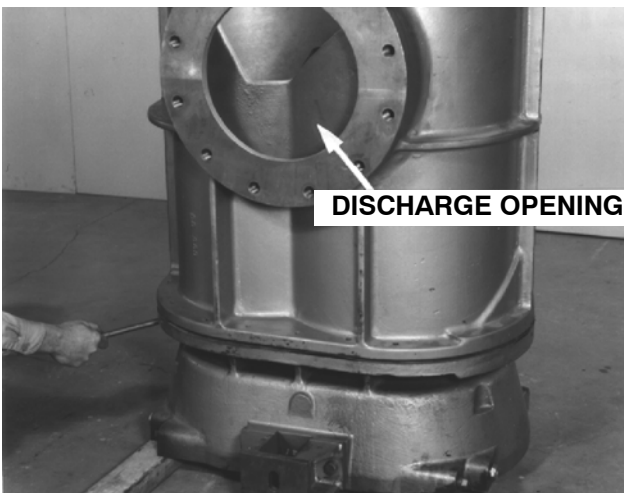

FIGURE 3
- Place .030" thick aluminum shim (20) on the gear end bearing carrier (4). The pointed section of the shim is positioned on the machined surface of the housing. Lower the housing (1), as level as possible, onto the carrier with the discharge opening up (FIGURE 3),